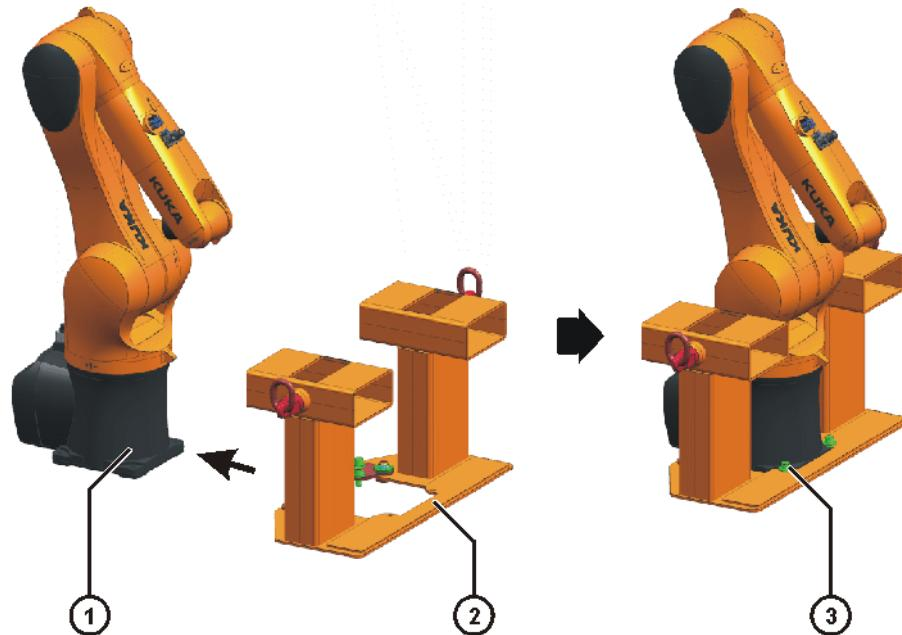

Fig. 8-10: Pushing on the Load Lifting Attachment and fastening it at the front
2. Carefully push the Load Lifting Attachment onto the base frame of the robot from the front (**>>> Fig. 8-10**).